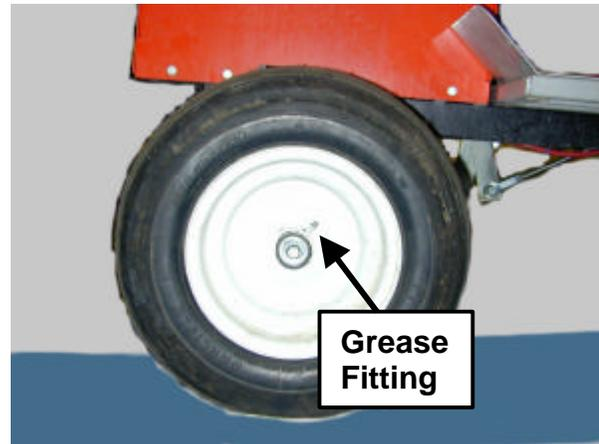

Figure 10: Rear Wheel Grease Fitting
1. There is one grease fitting on each rear wheel (*Figure 10*). Grease these fittings with #2 lithium grease at least every 25 hours of operation per the Maintenance Checklist on page 17.